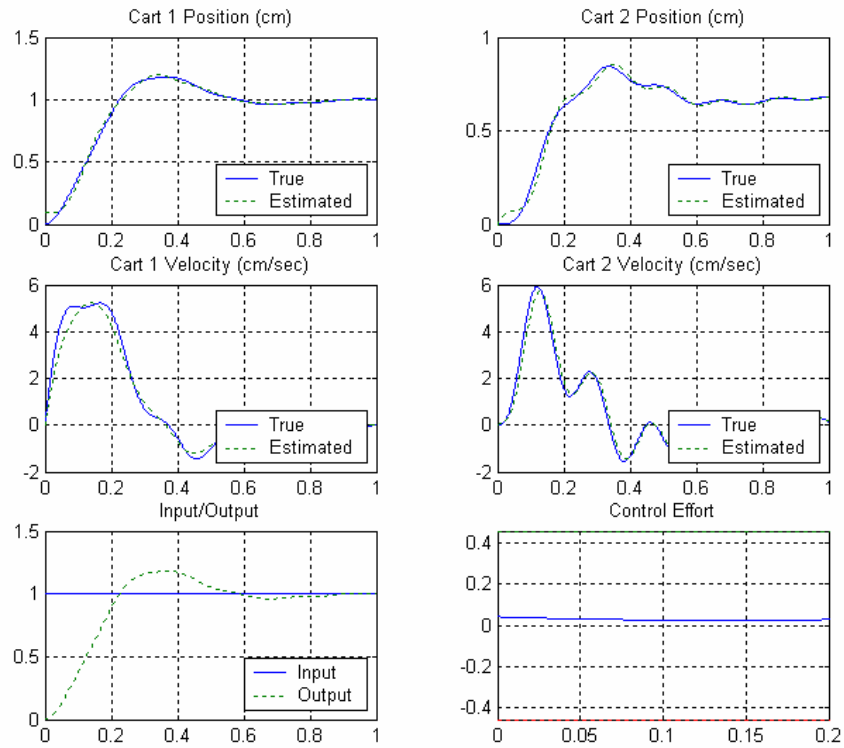

Figure 5. Results for 4e.
e) Repeat part (b), but utilize both the position of the first and second carts in the observer. You should get results similar to those in Figure 5. Turn in your plot.